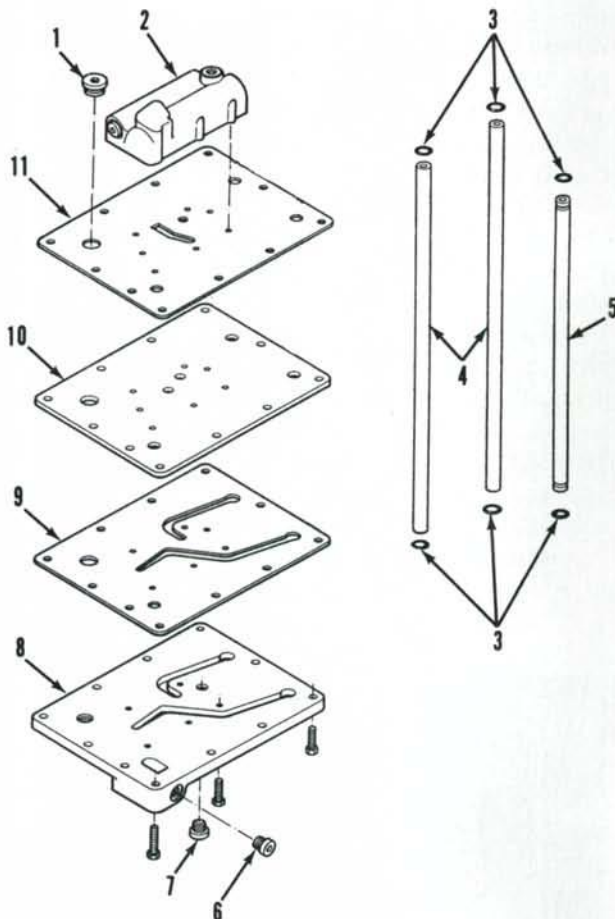
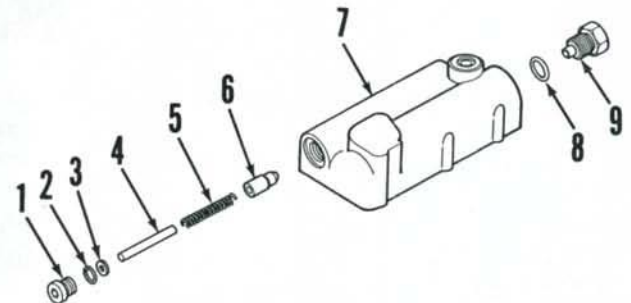
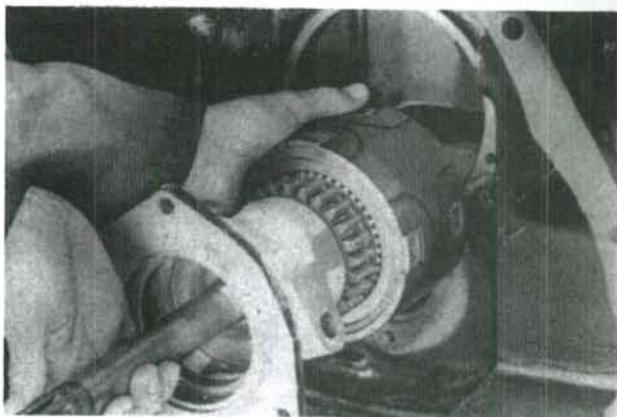

Fig. 99—View of regulator valve and bottom core plate and relative components used on models equipped with Forward-Reverse transmission.
Fig. 100—Exploded view of regulator valve assembly.
Fig. 106—Remove Forward-Reverse unit from front of speed gearbox.
107. R&R AND OVERHAUL. To remove the bottom core plate (8—Fig. 99) and regulator valve (2), first remove drain plug and drain transmission fluid. Disconnect battery cables.
Remove plug (1—Fig. 100) with "O" ring (2), shim (3), pin (4), spring (5) and valve (6). Remove plug (9) and "O" ring (8). Unbolt and remove regulator valve body (7), then remove gasket (11—Fig. 99), separator plate (10) and gasket (9) from core plate (8).
Clean and inspect all parts for excessive wear or other damage and renew as necessary. Valve body (7—Fig. 100) is not serviced separately. Spring (5) should have a free length of 1.86 inch (47.4 mm). Use new gaskets and "O" rings and reassemble and reinstall by reversing disassembly and removal procedures.
to select forward direction. Record pressure gage reading. Move control to select reverse direction and record gage reading. Stop engine. Pressure readings in both forward and reverse must be 300-320 psi (2070-2210 kPa). A low reading for one direction only would indicate damaged piston seal rings for that clutch. If readings are low in both forward and reverse, add shims (3—Fig. 100) in regulator as required. Adding one shim will increase pressure by 20-30 psi (138-207 kPa). If a total of more than four shims are required, renew spring (5).
forks. Remove the Forward-Reverse unit from front of speed gearbox. See Fig. 106. Remove pressure tubes (4—Fig. 99) and "O" rings (3).